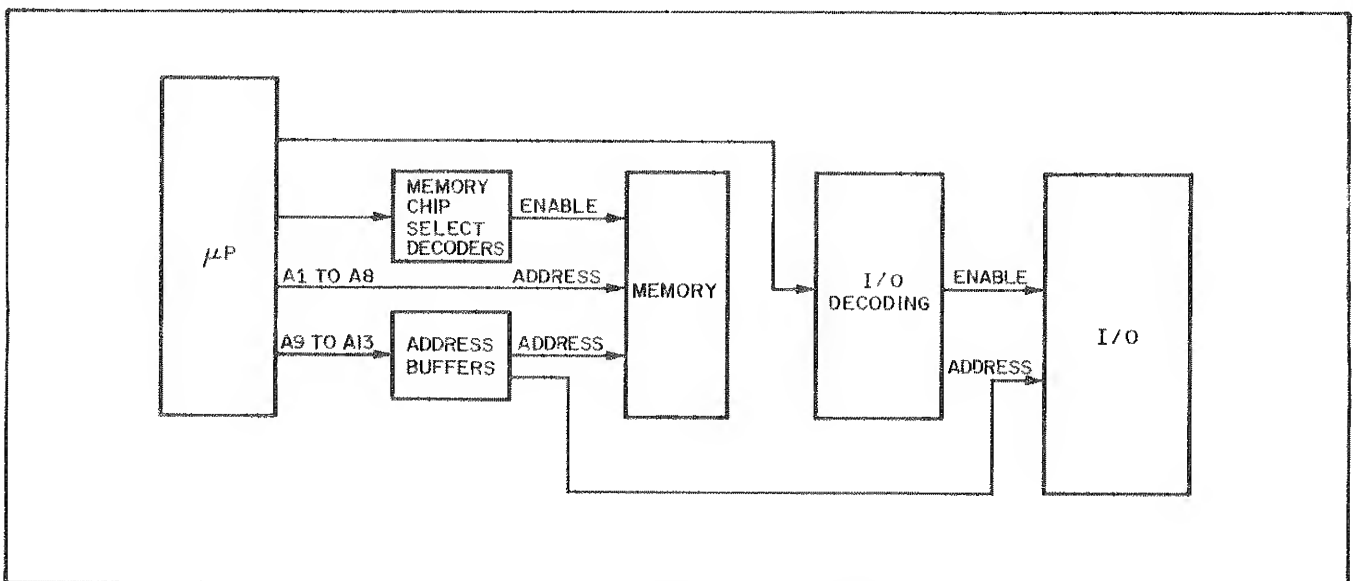

Figure 5-10. Signature Analysis Map
1. Figure 5-10 shows the circuit functions that are checked using signature analysis, with arrows directing the user from one functional area to another. Figures 5-12 and 5-15 are arranged similar to Figure 5-10 and are subdivided by circuit function.